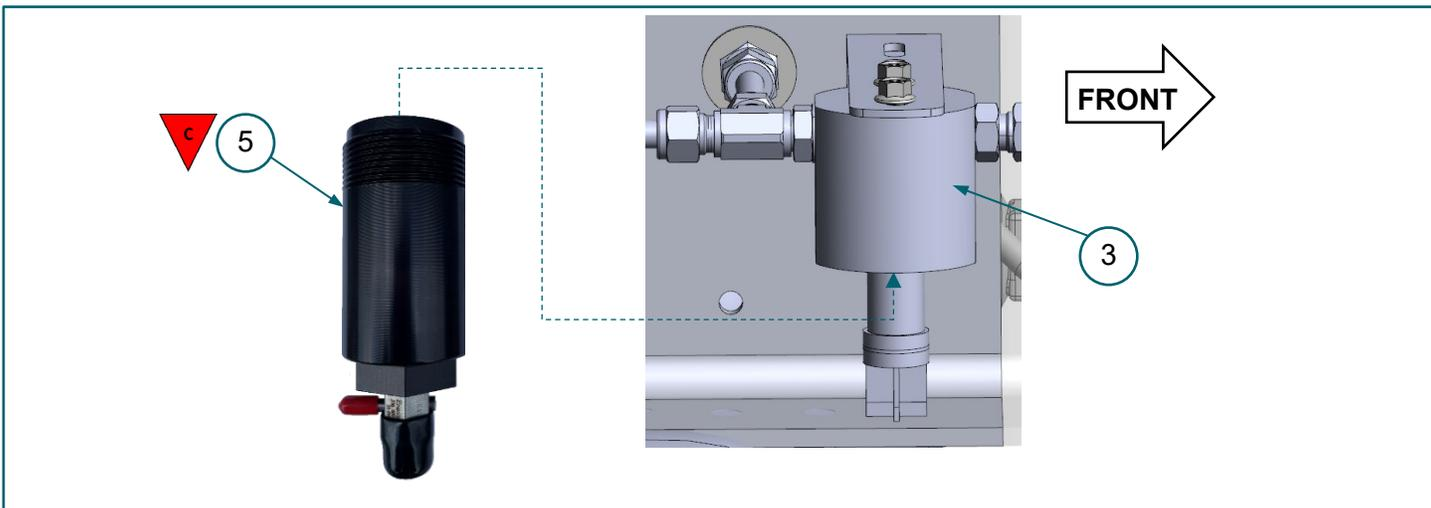

FIGURE 3-7. (5) retrofit HP fuel filter bowl, (3) HP fuel filter head
8. Use a 55 mm wrench to install (5) retrofit HP fuel filter bowl on (3) HP fuel filter head. **FIGURE 3-7**